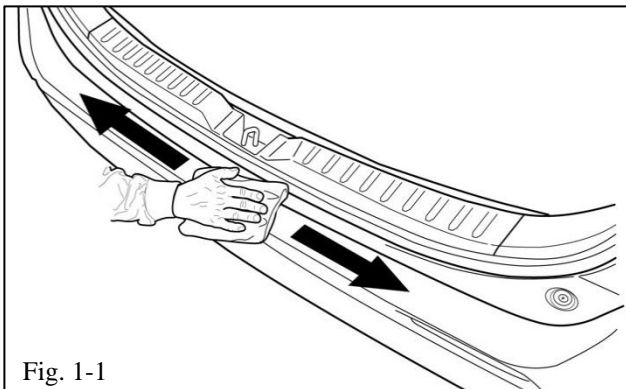

Fig. 1-1
- (c) Wipe the cleaned surface with a clean, dry, lint-free cloth (Fig. 1-1).